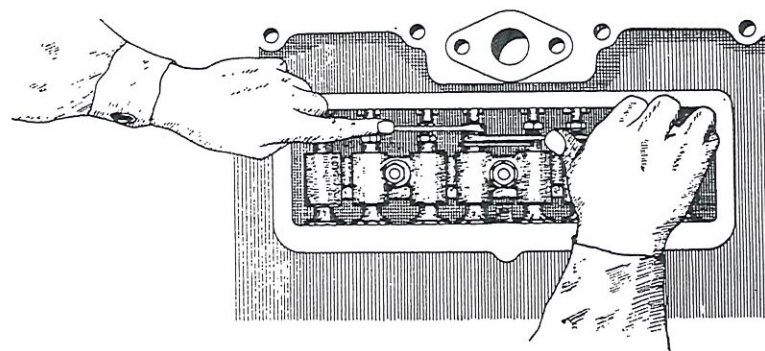

FIG. 6.
b) Tappet adjustment. — The play between valve stems and tappets must be 0,25 mm, and to obtain this proceed as illustrated in figure 6.